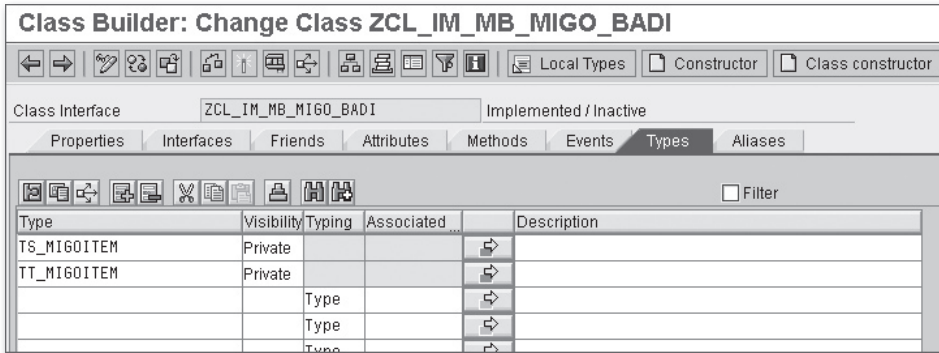

Figure 5.4 Enhanced Type Definition in Classes
- Switch to the TYPES tabstrip to create the data type TT_MIGOITEM. To define a table, you need the direct type input (see Figure 5.4).